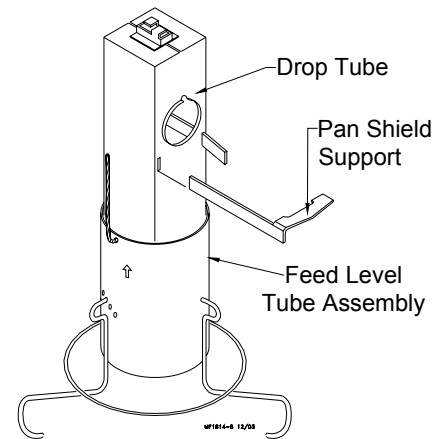

Figure 23. Drop Tube Installation
5. Insert the Drop Tube into the Feed Level Tube Assembly, **see figure 23**. Install the pan shield supports in the slots in the drop tube.